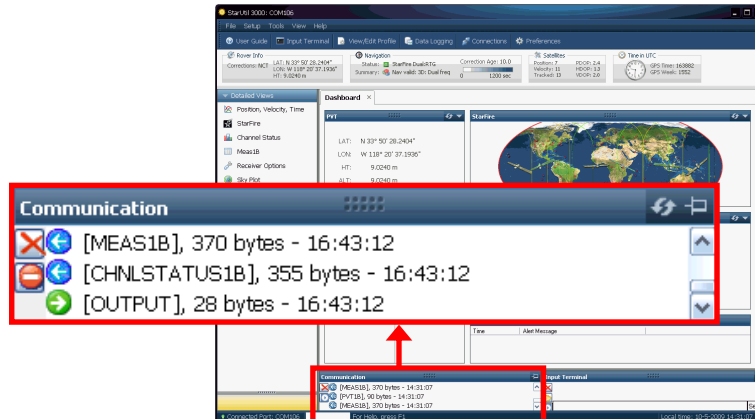

Figure 31: Communication Window – Valid Connection
3. Verify that the SF-3040 or the SF-3050 is connected to the PC. Scrolling messages in the Communication window indicate that a valid connection is established at the required baud rate (see Figure 31).